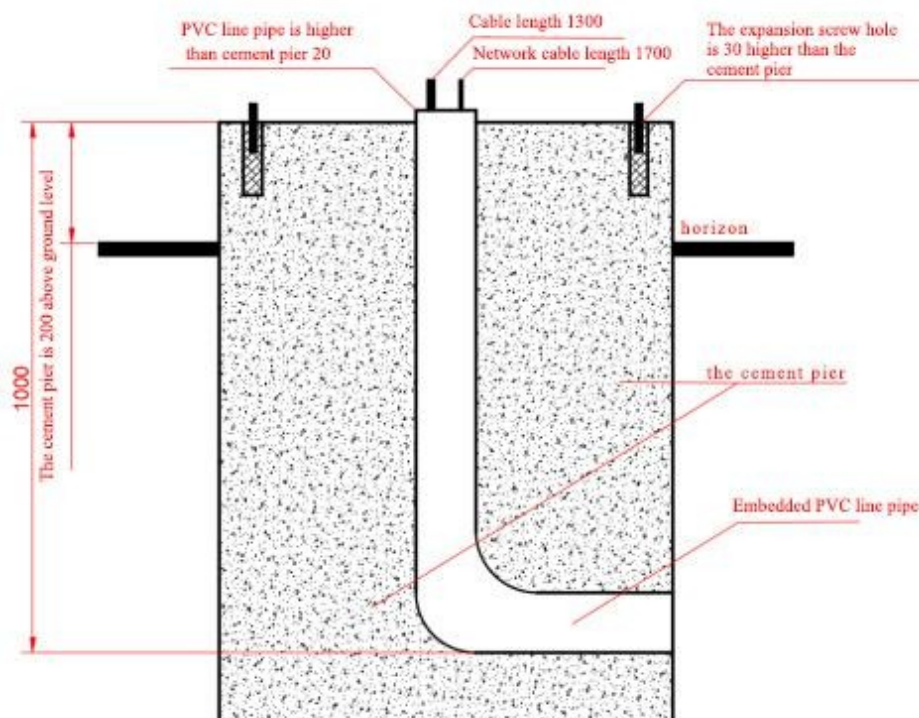
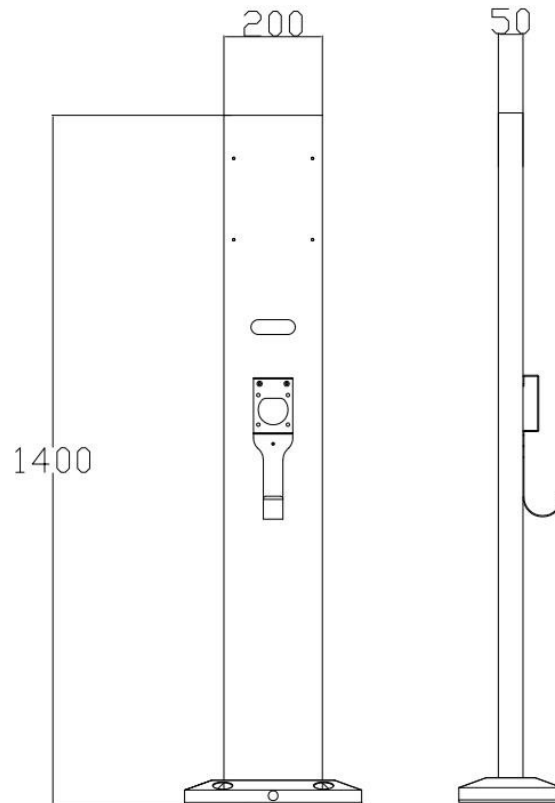

Figure 5-2-3 Schematic diagram size recommendation of foundation 300*300*200
Figure 5-2-4 Floor Stand Mounted Size
1. This series DC charging Station can be installed vertically according to the requirements Installation size, Figure 5-2-3、 Figure 5-2-4 and Figure 5-2-5.